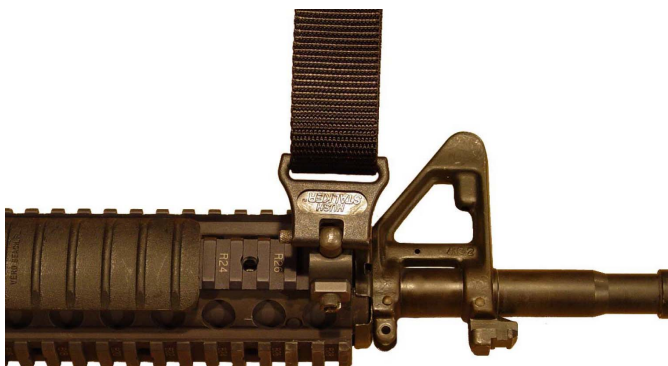

Figure 3-40. Standard Side Sling Adapter
- c. Standard Sling Adapter. The standard side sling adapter, if installed, must be positioned with the sling swivel to the operator's right (right side of the weapon. It will be oriented with the integral stop to the rear. This allows the swivel to fold flat towards the muzzle preventing the side sling adapter from interfering with the installation of the handguard sections, the forward handgrip or other accessories requiring installation from the end of the rail. Refer to Figure 3-40.